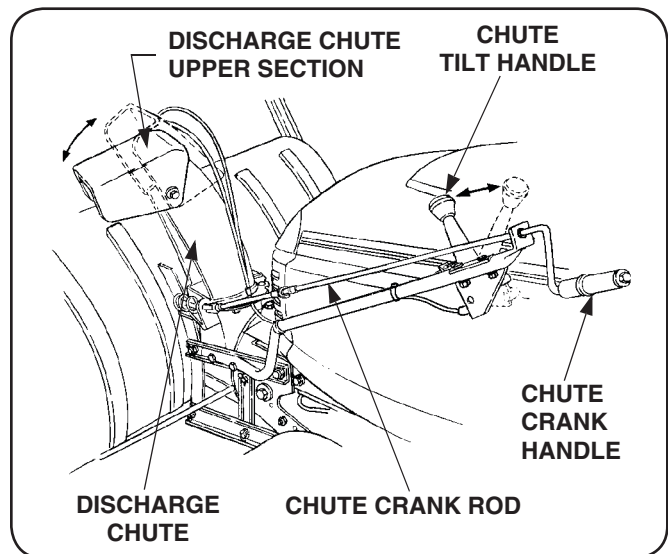

Figure 6-6
- The discharge chute control crank is located on the left hand side of the snow thrower. The chute crank controls the direction in which snow is thrown. The discharge radius is 190 degrees. Turn the crank clockwise to discharge to the left and counterclockwise to discharge to the right. See Figure 6-6.
- The chute tilt handle is also located on the left hand side of the snow thrower. The pivoting upper section of the discharge chute pivots downward when the tilt handle is pushed forward — decreasing the distance snow is thrown. Pulling the handle backwards pivots the upper section upward — increasing the distance snow is thrown. Refer to Figure 6-6.